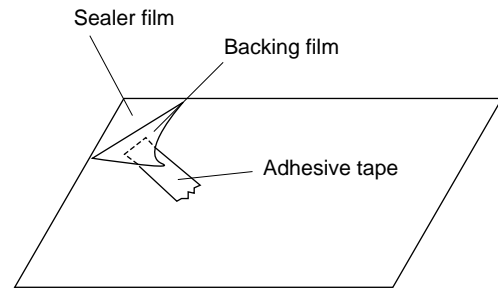

Figure C-7. Sealer film
3. Re-install door panel to door frame by fitting ten (10) tabs of door frame to ten (10) holes of door panel.
4. Put sealer film on door panel. Refer to "Sealer Film" and figure C-7, on how to handle the new film.
5. Catch two (2) pins of door panel on two (2) hole of upper and lower oven hinges.
1. Put the adhesive tape on the backing film of the sealer film as shown in Fig. C-7.